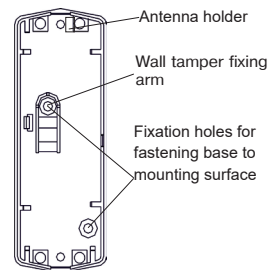

Figure 3 - SPM base
**ATTENTION!** Antenna should be installed into the holder (see Figure 3). Antenna installation outside of the holder essentially reduces communication range.